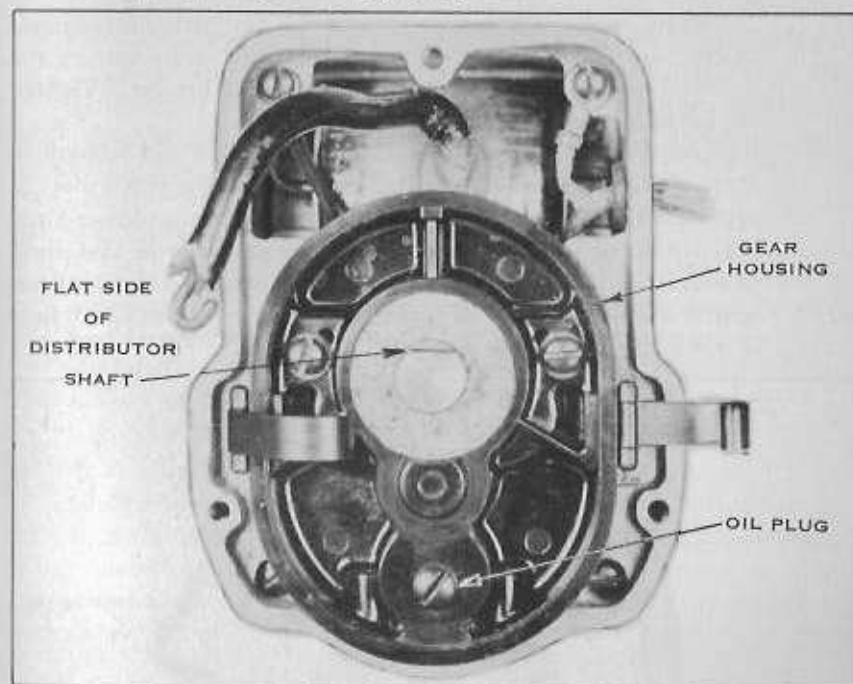

FIG. 25 MAGNETO (SHOWING GEAR HOUSING)
- Crank the engine slowly until the flat side of the magneto distributor shaft is on top, Fig. 25. Then remove the distributor gear and housing assembly, held by two screws. The breaker contacts will be open wide when the engine has been cranked to the position mentioned and no further cranking should be done while the gear housing is off the magneto. To do so might result in the distributor being out of time when reassembled.